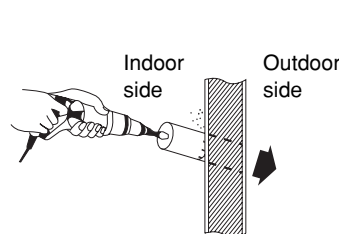

Fig. 3-22
- (4) Using a sabre saw, key hole saw or hole-cutting drill attachment, cut a hole in the wall. See Table 3-3 and Fig. 3-22.